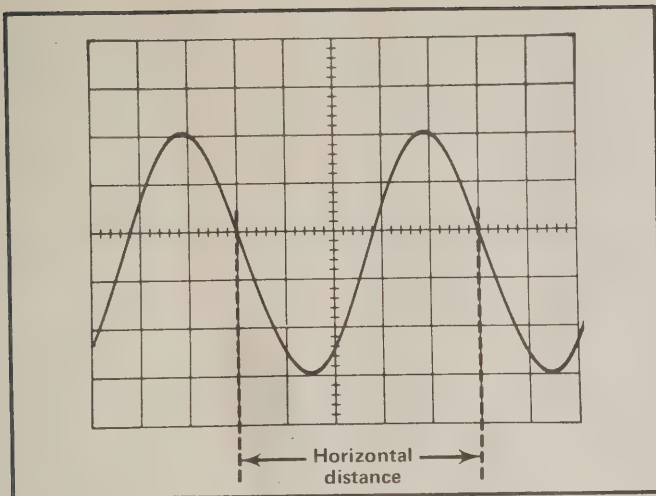

Fig. 4. Measuring the time duration between points on a waveform.
5. For best accuracy use the TIME/DIV setting that gives the greatest number of divisions between the time measurement points (see Fig. 4). Sweep Magnification (to obtain more displayed divisions) should be used when measuring portions of more complex waveforms.
Example. Assume that the distance between the time measurement points is five divisions (see Fig. 4) and the TIME/DIV switch is set to .1 ms.